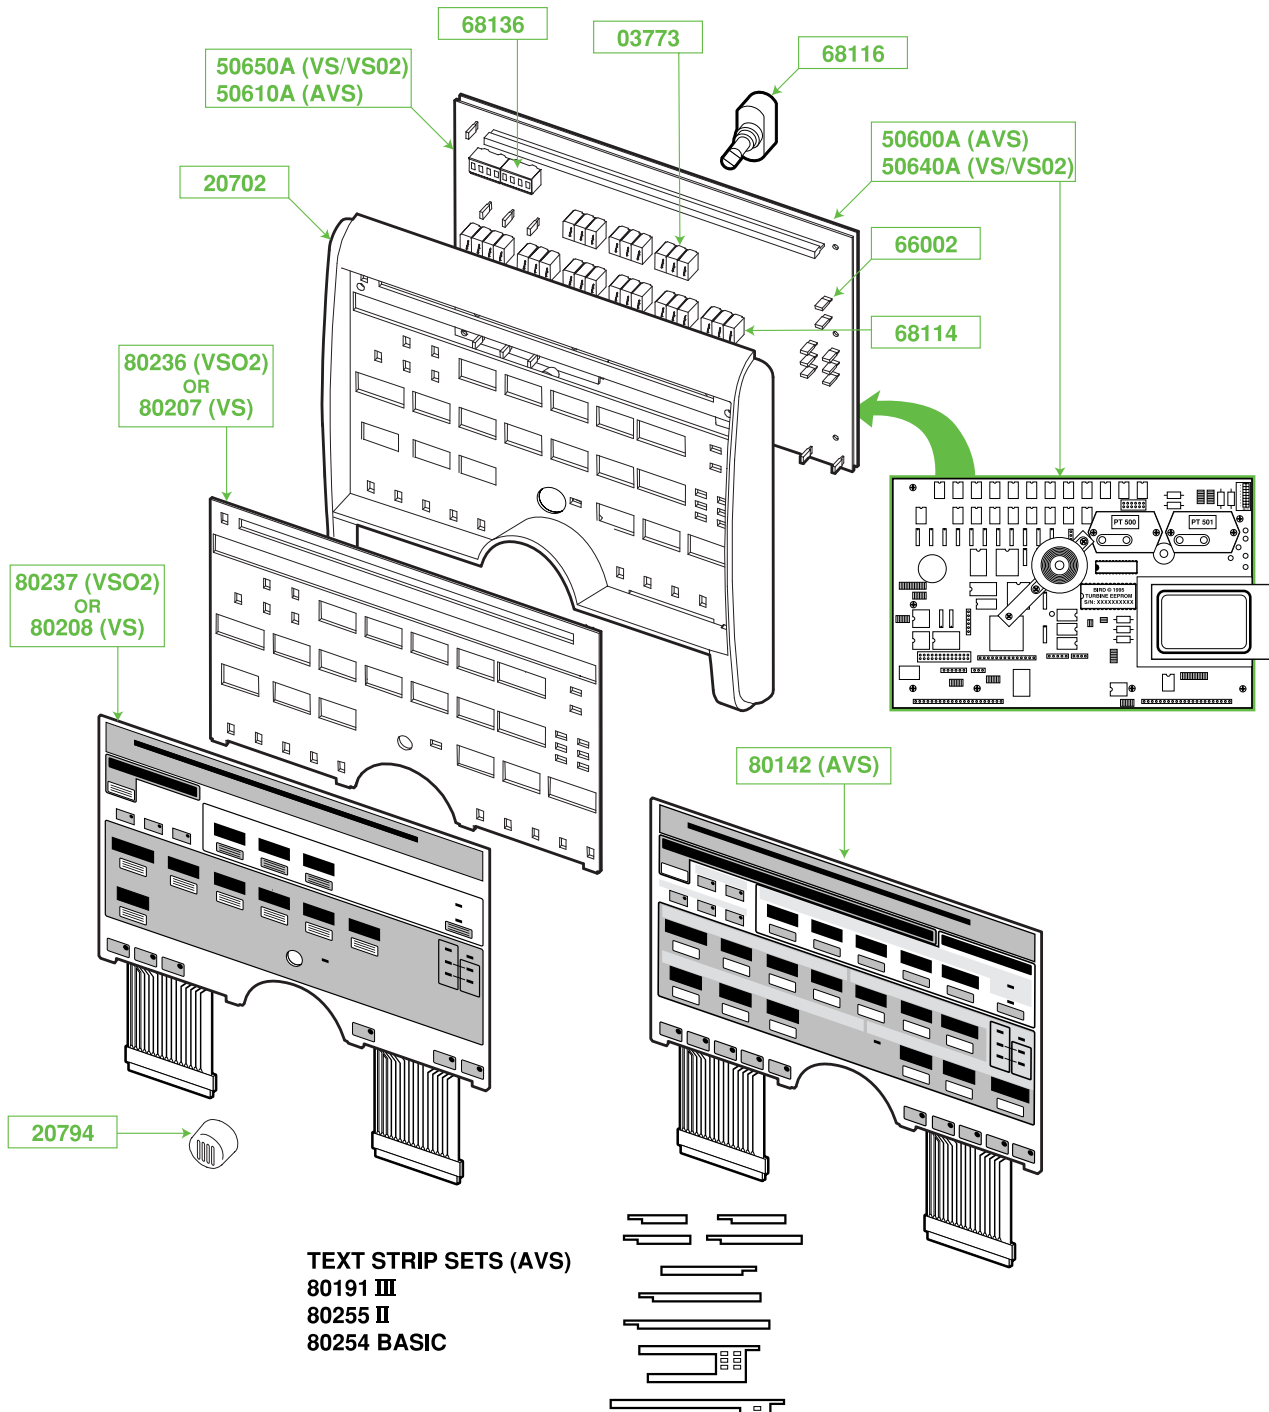

Figure 5-9. Front Panel Disassembly
2. To remove the Front Panel Encoder: Refer to Figure 5-9.
- a) Disconnect the two (2) ribbon cables in the lower corners of the Main PCBA. (Refer to Figure 5-9.)